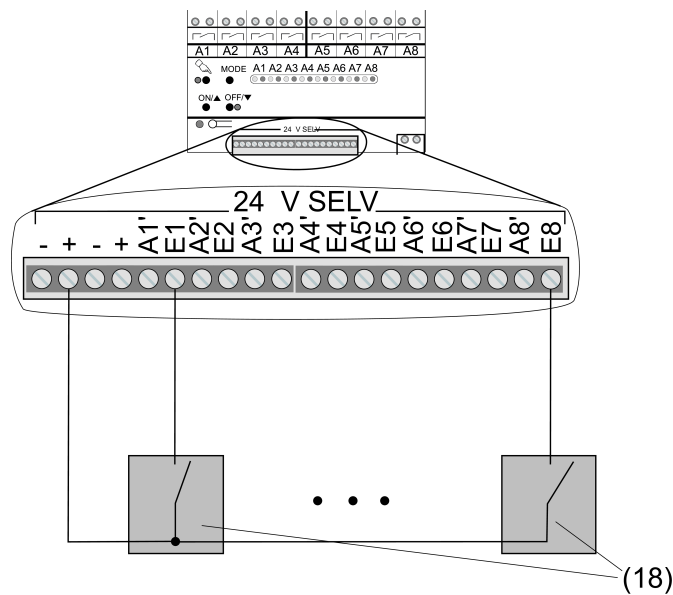

Figure 7: Push-button connection example
- Establish the connection according to the connection example (see figure 7).